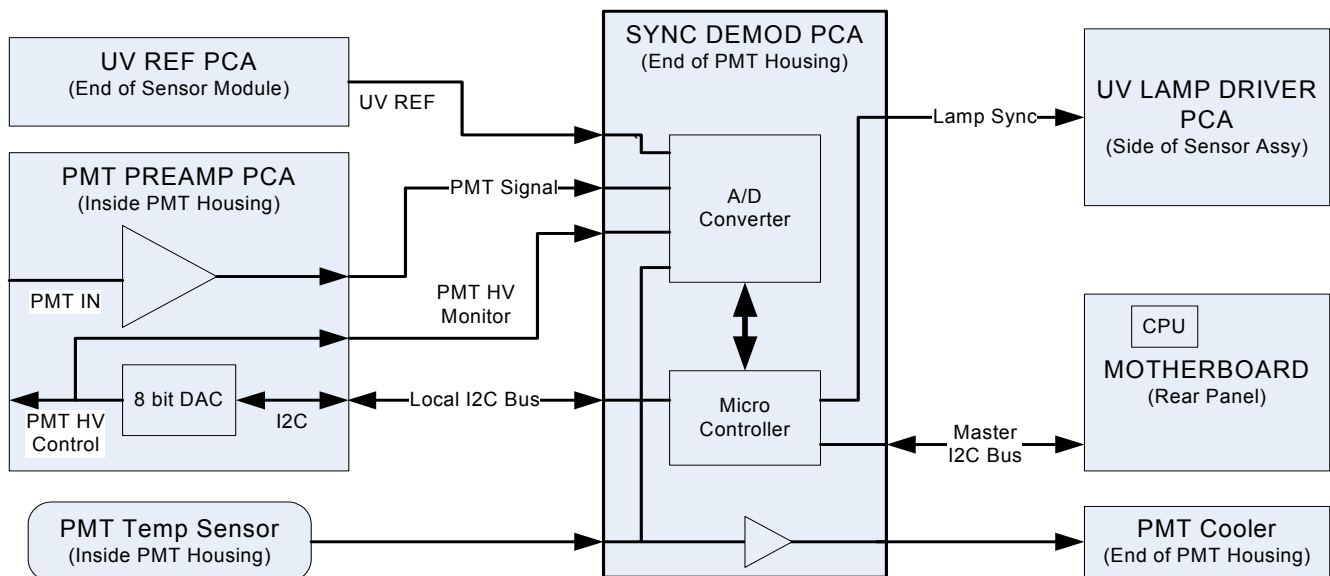

Figure 10-1: Sensor Block Diagram
At the heart of the M100EU's signal processing, illustrated in Figure 10-1 below, is the Synchronous Demodulator PCA. The PCA is attached to the end of the PMT housing and serves to seal the end of the PMT housing. The sync demodulator controls the operation of the UV Lamp driver, digitizes the analog output signals from the PMT UV reference detector and PMT temperature sensor, controls the PMT cooler (TEC), controls the PMT HV via a local I2C bus, and communicates with the analyzer's CPU over the master I2C bus. Digitized and processed data from the UV reference and PMT are passed to the analyzer's CPU over the master I2C bus and data for control of the PMT HV control DAC is passed from the CPU to the DAC on the PMT preamp via the microcontroller on the Sync Demod board.
2. Slightly loosen the large brass thumbscrew located on the shutter housing (see Figure 10-1) so that the lamp can be moved.